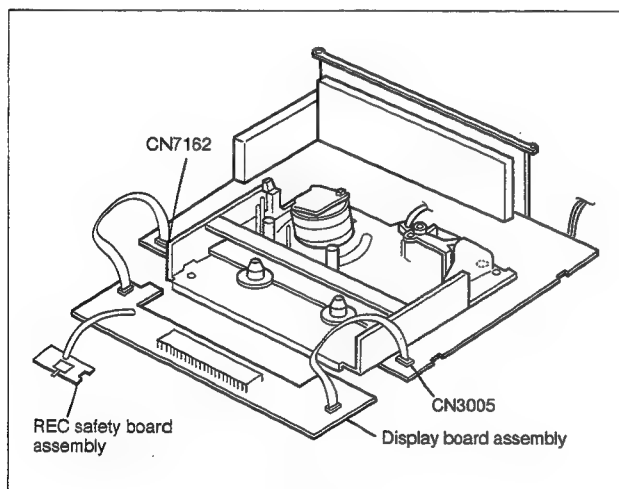

Fig. 1-4-3
- (7) Remove the Display board and the REC safety board assemblies (See 1.3 DISASSEMBLY/ASSEMBLY METHOD), then place them on the front side of the Main deck and the Main board assemblies which have been disassembled by procedure (6), and insert the flat wires into CN7162 and CN3005 of the Main board assembly (see Fig.1-4-3).
1.4.3 Cassette loading and ejection methods in the "SERVICE POSITION"(See Fig. 1-4-3).
- (1) Insert a cassette halfway in the Cassette holder assembly.
- (2) Set the switch on the REC safety board assembly to ON (by pressing the switch).
- (3) As soon as the cassette starts to be loaded, set the switch on the REC safety board assembly to OFF (by releasing the switch).
- (4) Now the desired operation (recording, playback, fast forward, rewind, etc.) is possible in this status (the status shown in Fig.1-4-3).
NOTES: • When performing diagnostics of the tape playback or the recording condition in the "SERVICE POSITION", enter the desired mode before turning the set upside down, and do not change the mode when performing diagnostics while the set is placed upside down. If you want to switch the mode, turn the set to the normal position (the status shown in Fig.1-4-3).